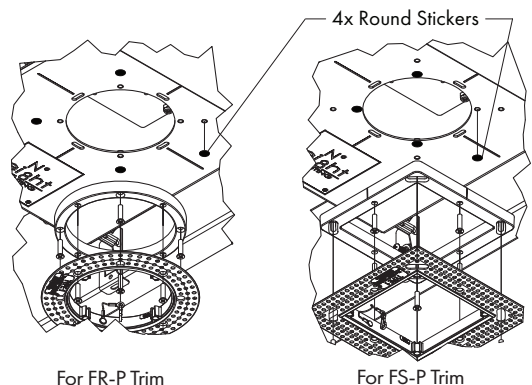

FIG 5.4 Sticker Application
STEP 4 Apply Stickers over unused holes and slots as shown to prevent light leaks and maintain airtight standards compliance. No caulking required – **FIG 5.4.**